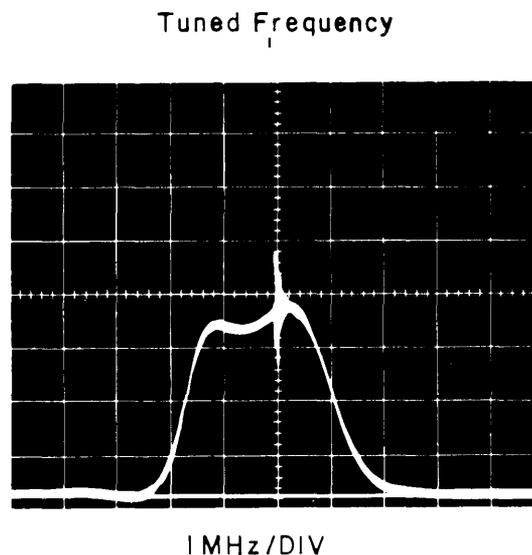

Figure 4-15. Typical Response, 12-30 MHz RF Preselector
- (2) Connect the DVM to board terminal 5 of the 12-30 MHz RF Preselector (A5) and adjust the tuning shaft for +0.75 Vdc at this point.
- (3) Set the HP-675A Sweep Generator to sweep 10 MHz about a 12 MHz center frequency at an output level of -15 dBm. Adjust the HP-608E Signal Generator to 10 MHz and adjust the output level to produce a visible marker.
- (4) Adjust A5L1, A5L4, A5L5 and A5L7 for maximum response.
- (5) Readjust the tuning shaft for +6.5 Vdc at terminal 5. Reset the sweep generator center frequency to 30 MHz.
- (6) Adjust A5C1, A5C4, A5C10 and A5C13 for maximum response.
- (7) Repeat steps (3) through (6) until interaction between adjustments is minimized. Figure 4-15 illustrates a typical response for the 12-30 MHz RF Preselector.